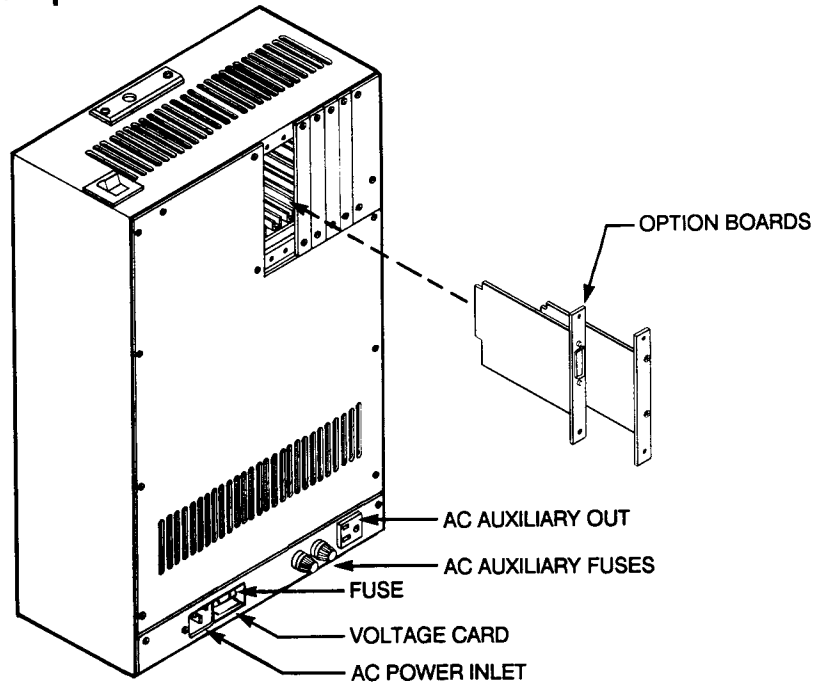

Figure 1-8. Back of the Main Electronics Unit
3. The voltage select card is located just below the fuse (see Figure 1-8). Verify that the voltage displayed on the left of the card is the correct voltage setting. If it is not, the voltage setting will need to be changed.